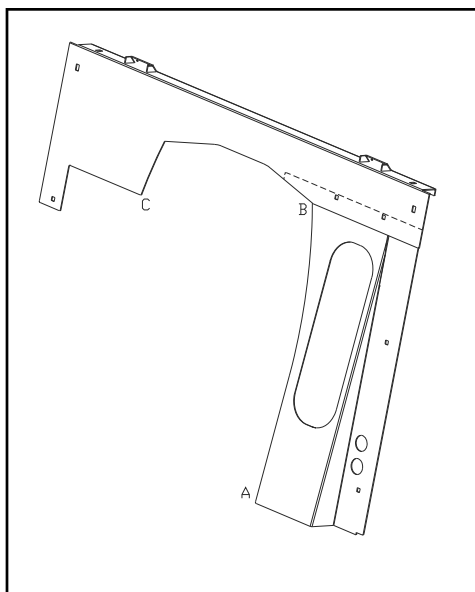

Fig. 4.2 (view from front left side of tractor)
4.2 Install the supplied one inch regular bulb rubber from point A to B to C per fig. 4.2